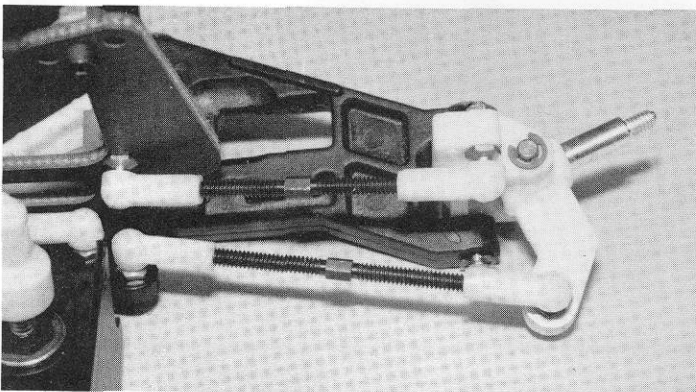

Fig. 31
□ **Figs. 31 & 32** Now go ahead and install one of the #6263 steering turnbuckles assembled in fig. 28 onto the right hand side steel ball ends on the #6221 nylon steering arms, and on the #6254 nylon bell crank arms (fig. 31). Do the left hand side. In bag #6-5 remove the #6330 body mount. Thread this onto the driver's right side screw as shown in fig. 32.